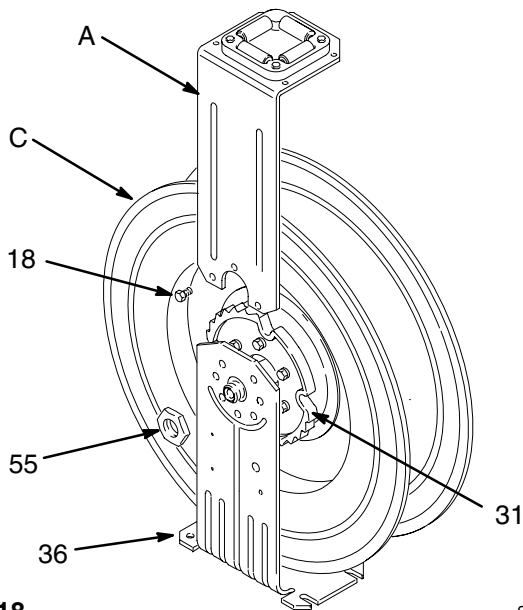

Fig. 18 03727B
9. To remove the roller support assembly (A), remove the three screws (18), and lift the arm off the reel. See Fig. 18.
10. Remove the nut (55), and remove the hose drum (C) from the base (36). Lay the drum on a work bench with the ratchet (31) side down.